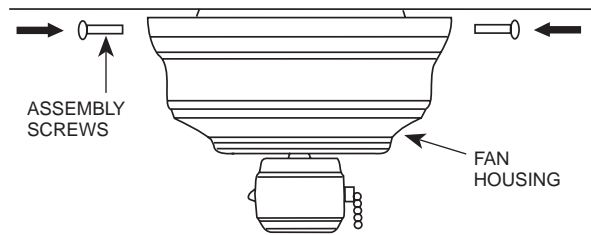

FIGURE 6A
B. Place the fan housing over the motor assembly and fasten the housing to the ceiling plate using the four screws provided (two each side). See Figure 6A.